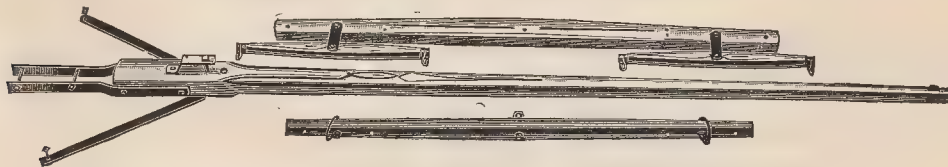

Fig. 210
Tongue Attachment, as shown in Fig. 210 . . . . .
**Tongue Attachment, Fig. 210.**—We show this as an attachment, as we find some desire both shafts and tongue. We, however, furnish our Sprayer equipped with tongue, known as No. 103, in which form we especially recommend it for hilly sections, and also for greater steadiness in operation. It is likewise a necessity for three row spraying.